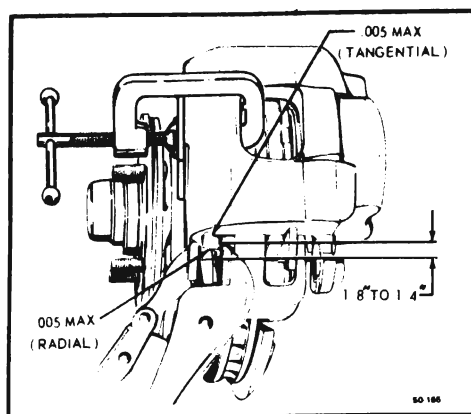

Figure 50-41--Clinching Outboard Shoe
7. Using vise-grip pliers, clinch both upper ears of the outboard shoe to prevent sizerattle. Locate the pliers 1/8 to 1/4 inch from the outer edge of the shoe ear. See Figure 50-41. After clinching, measure the tangential and radial clearance between the